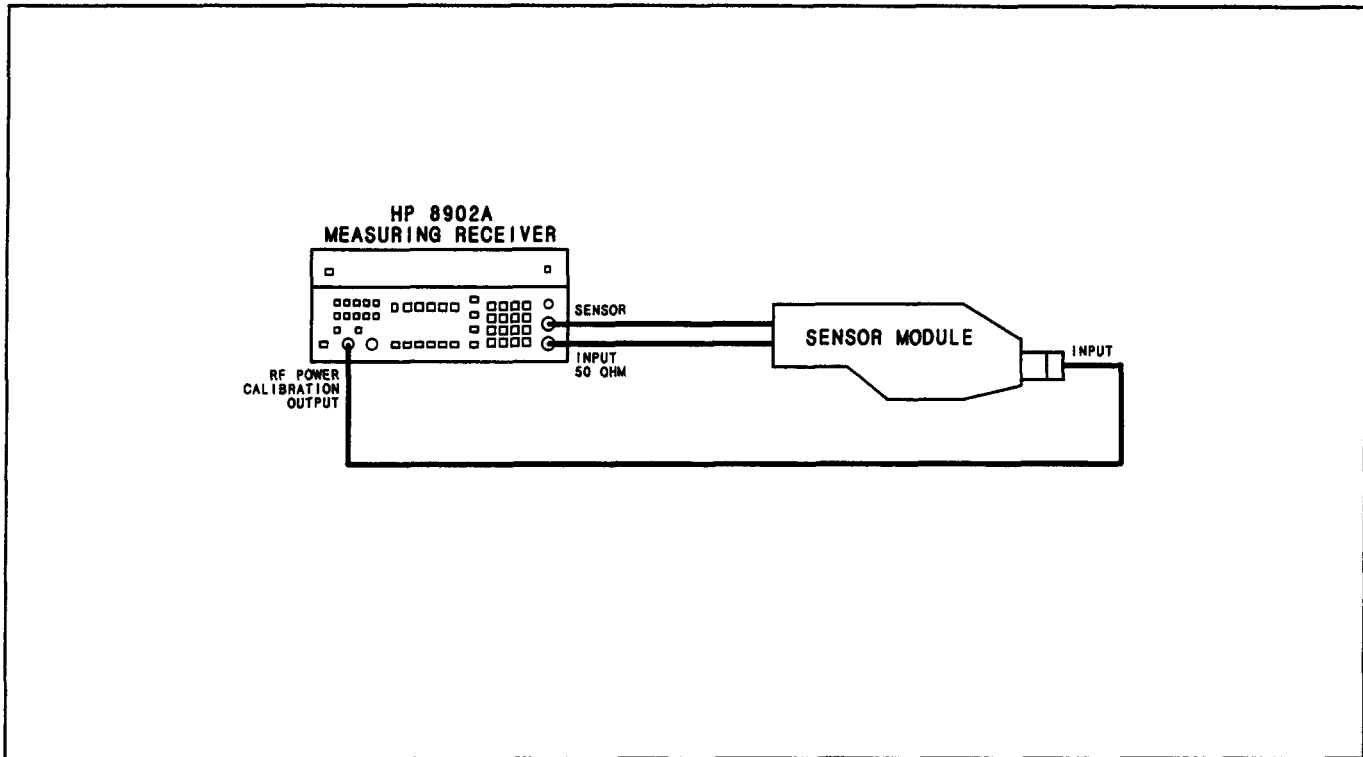

Figure 3-6. RF Power Calibration Setup
1. Connect the multi-conductor cable of the sensor module to the SENSOR input connector. Connect the RF coaxial cable of the sensor module to the INPUT 50Ω connector (see Figure 3-6). Select INSTR PRESET (Blue Key, AUTOMATIC OPERATION). Observe the front-panel LED annunciators, display segments and decimal points, and key lights. All LEDs should light for approximately 10 seconds at turn on and then all should momentarily turn off.
3. Connect the sensor module input to the RF POWER CALIBRATION OUTPUT connector. (See Figure 3-6.)